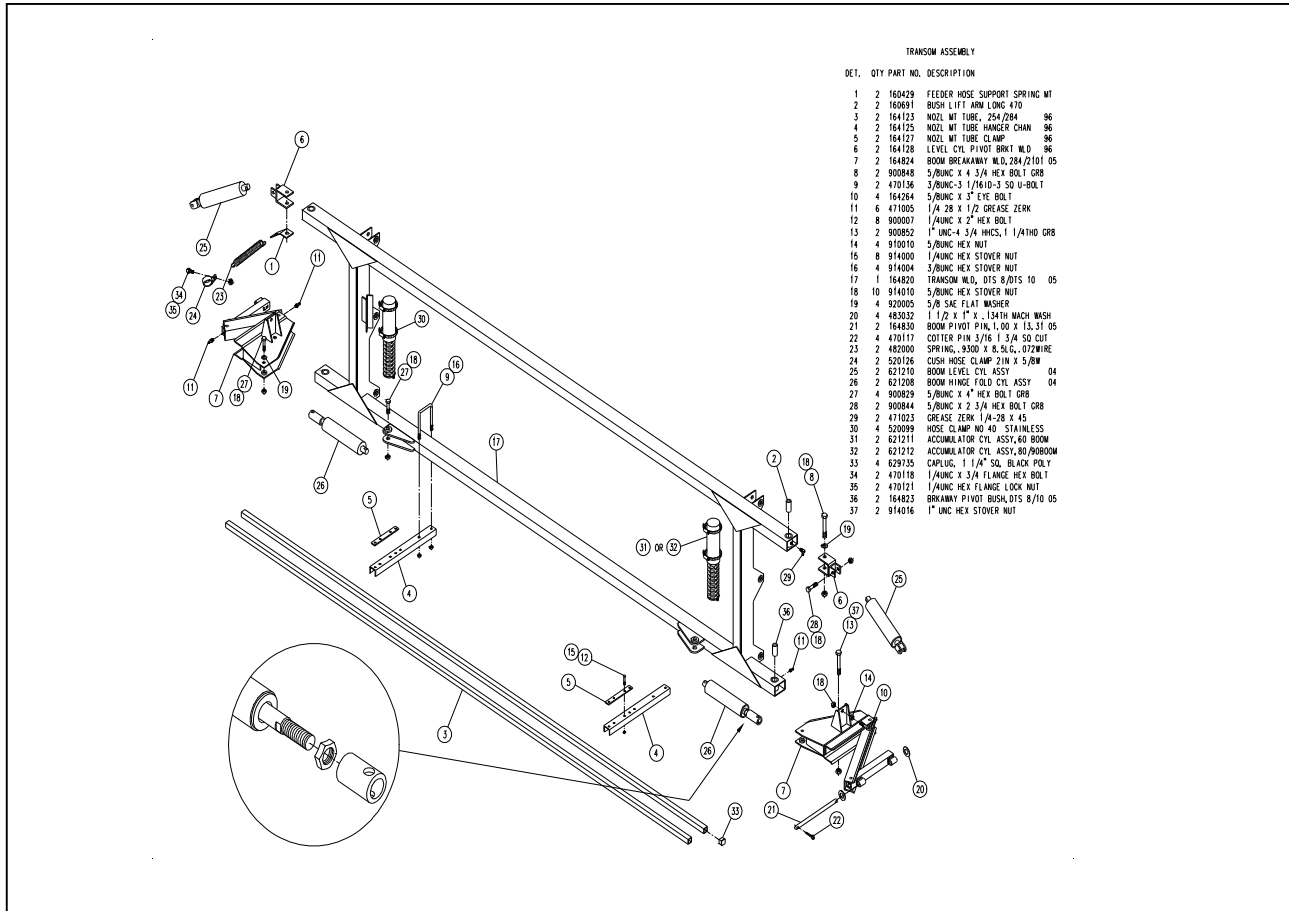

FIG 4.6
1. Install the transom weldment (fig. 4.6, item 17).
4. After the outer booms have been installed, adjust the fold cylinder sleeve (page 25, fig. 4.6, item A) until the booms are parallel with the transom. Then use this same adjustment to allow the boom to fold in far enough to locate in the boom cradle. Lock the cylinder sleeve in place with the jam nut (page 25, fig. 4.6, item B).